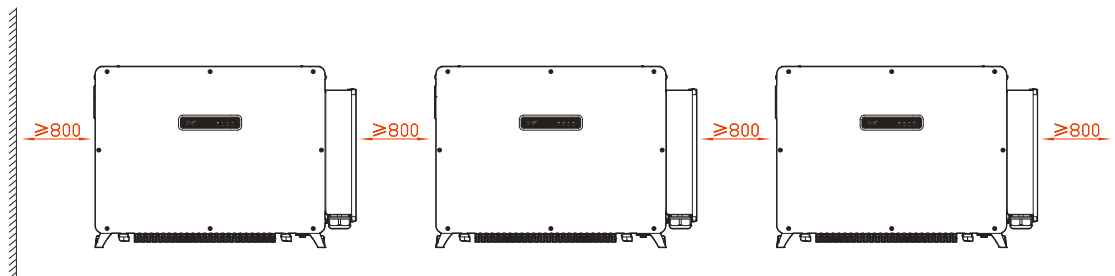

Figure3-5 Installation space requirements of multiple inverters (unit: mm)
- When multiple inverters are installed side by side, a certain distance must be reserved between the inverters, as shown in Figure3-5.